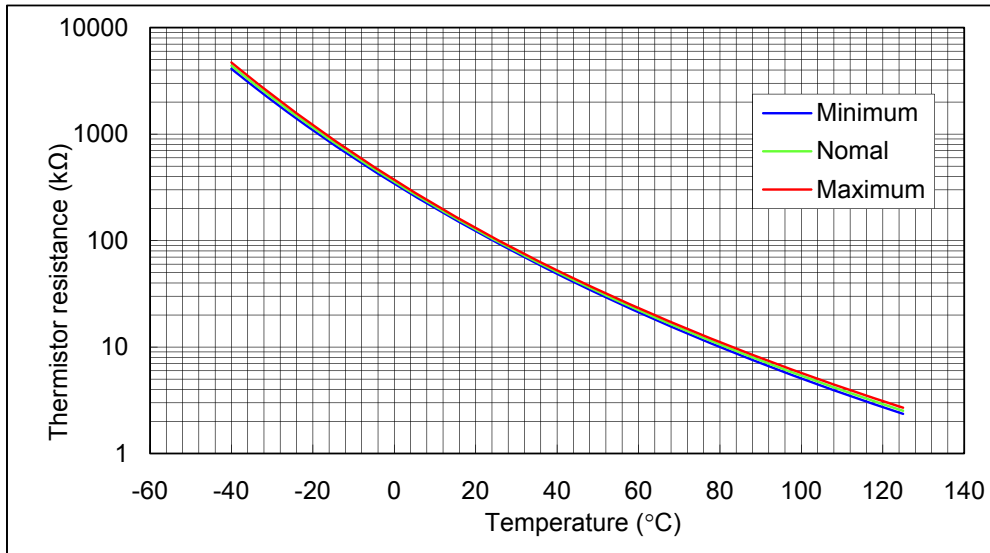
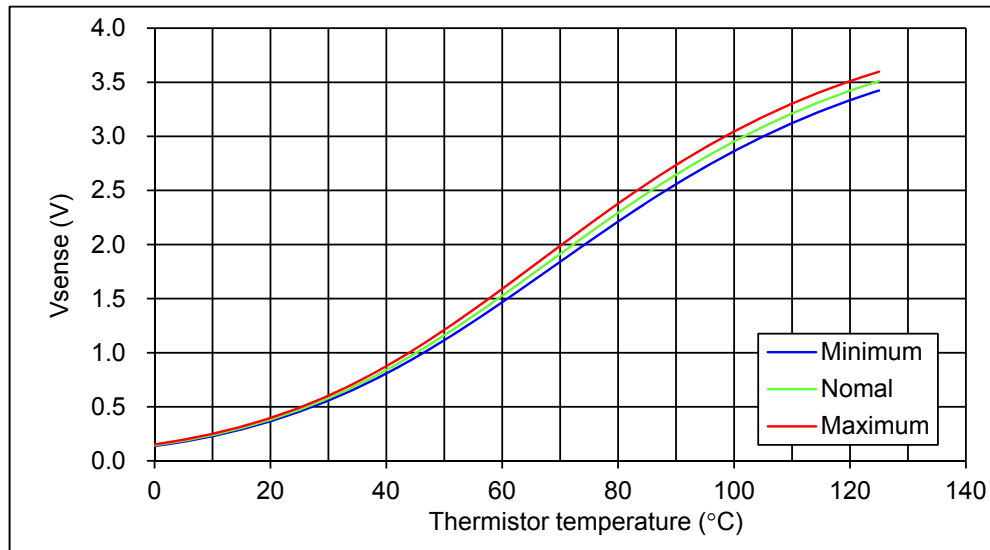
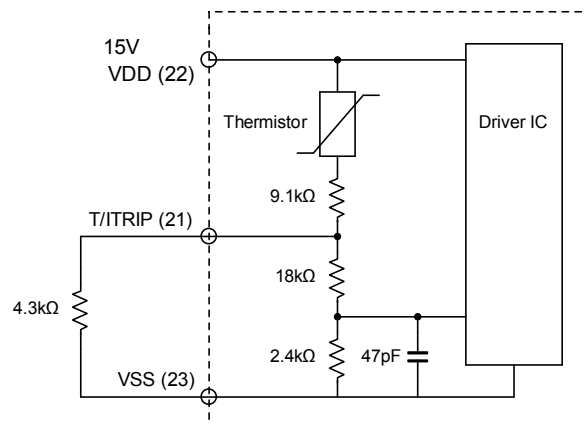

Fig. 10 Variation of thermistor resistance with temperature
Fig. 11 Variation of temperature sense voltage with thermistor temperature by using external bias resistance of 4.3 kΩ ±1% and VDD = 15 V
Fig. 12 Sample application circuit for temperature monitoring
7. Inside the IPM, a thermistor used as the temperature monitor is connected between VDD terminal and T/ITRIP terminal, therefore, an external pull down resistor connected between the T/ITRIP terminal and VSS terminal should be used. The temperature monitor example application is as follows, please refer the Fig.10, Fig.11, and Fig.12 below.